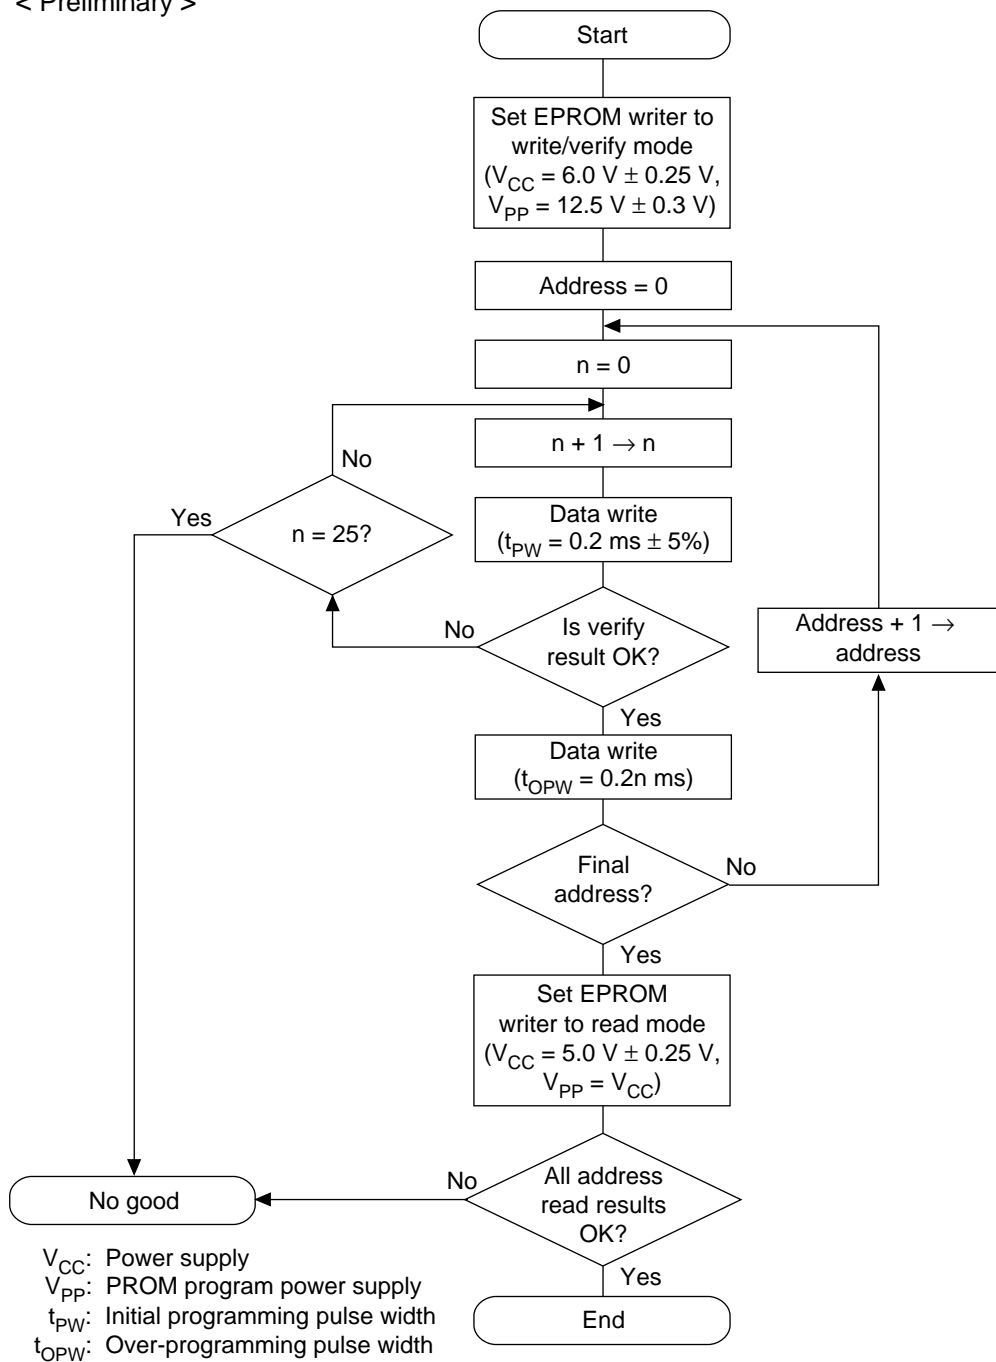

Figure 21.6 High-Speed, High-Reliability Programming Basic Flow
Write/Verify: Writing and verification can be done using an efficient high speed, high reliability programming format. This format allows data writing that is both fast and reliable without applying voltage stress to the device. Figure 21.6 shows the basic flow of the high speed, high reliability programming format.
| Address setup time | t_{AS} | 2 | — | — | μs | Figure 21.6 ^{*1} |
*3 t_{OPW} is defined by the values noted in the flowchart (figure 21.6).